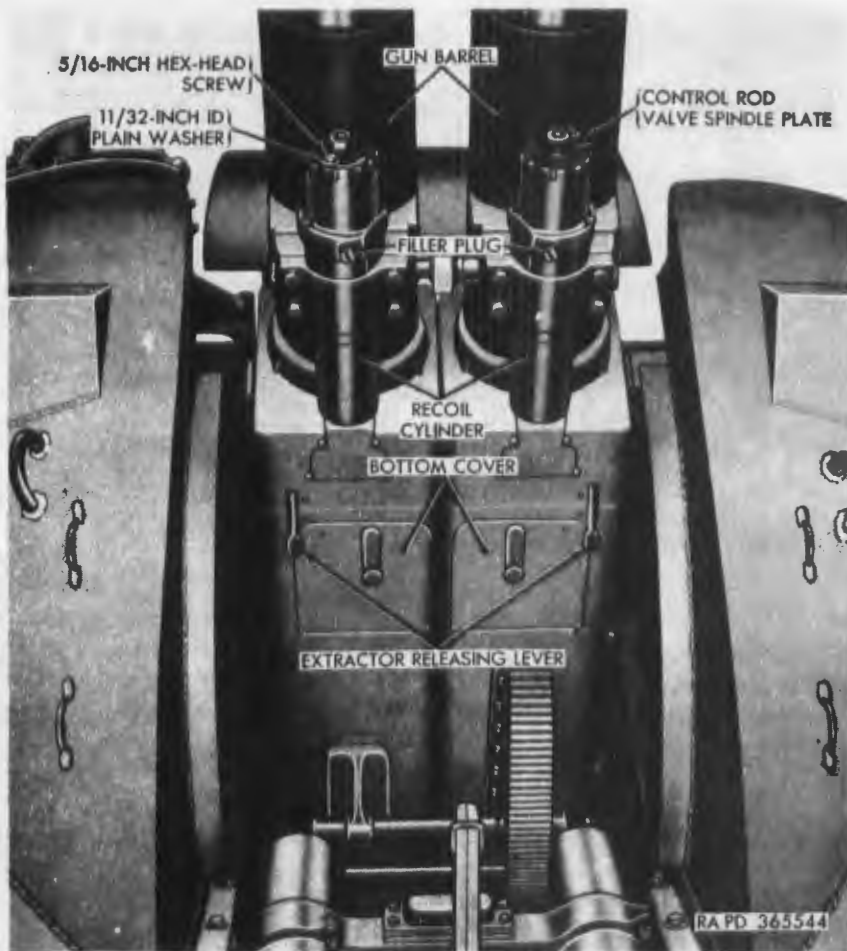

Figure 52. Recoil cylinders—installed view.
c. Recoil Cylinder Oil Level Check. Elevate dual gun to 25° (par. 54a). Cut locking wire and remove filler plug (fig. 52) from each recoil cylinder. Check to see that oil is up to level of each plug hole. If oil is not up to plug-hole level, fill in accordance with LO 9-7218 (pars. 90 and 280d(1)). Install filler plugs and lock in place with locking wire.